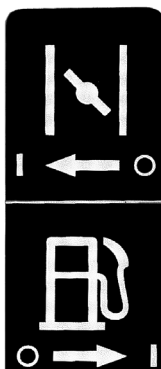

Figure 8
2. Slide the fuel shutoff lever to the right (open) position (Figure 8).